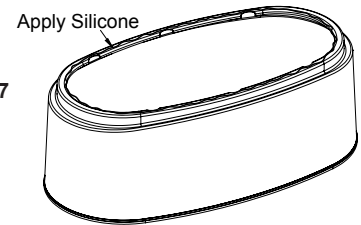

Fig. 7
- 1 After locating the drain alignment kit, electrical, and water supply lines with the supplied template (Modena™ only), use a marker to trace the inside footprint of the skirt in the location where the bathtub will be placed. Add silicone only to the bottom of the skirt and place back in the marked area (Fig. 7).